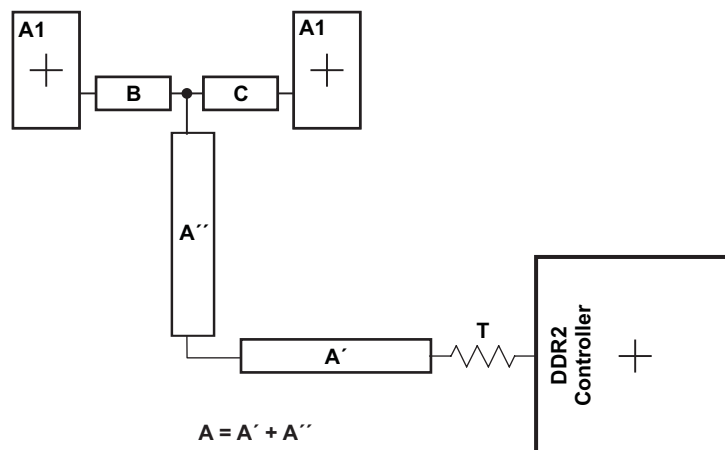

Figure 8-54. CK and ADDR_CTRL Routing and Topology
Figure 8-54 shows the topology of the routing for the CK and ADDR_CTRL net classes. The route is a balanced T as it is intended that the length of segments B and C be equal. In addition, the length of A ($A' + A''$) should be maximized.
(1) The length of segment A = A' + A'' as shown in Figure 8-54.
(2) Series terminator, if used, should be located closest to the device.
(3) Center-to-center spacing is allowed to fall to minimum (2w) for up to 500 mils of routed length to accommodate BGA escape and routing congestion.
(4) CACLM is the longest Manhattan distance of the CK and ADDR_CTRL net classes.